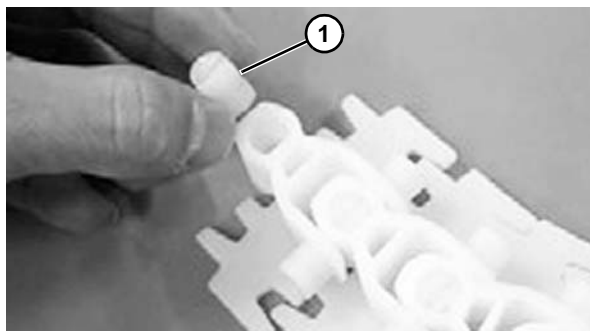

Figure 47
1. Insert the plastic pivot (**Figure 47, item 1**) with the slot facing outward.